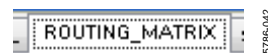

Figure 42. Selecting the **ROUTING\_MATRIX** Tab
3. Click the **ROUTING\_MATRIX** tab (see Figure 42) to allow the configuration of the routing matrix.